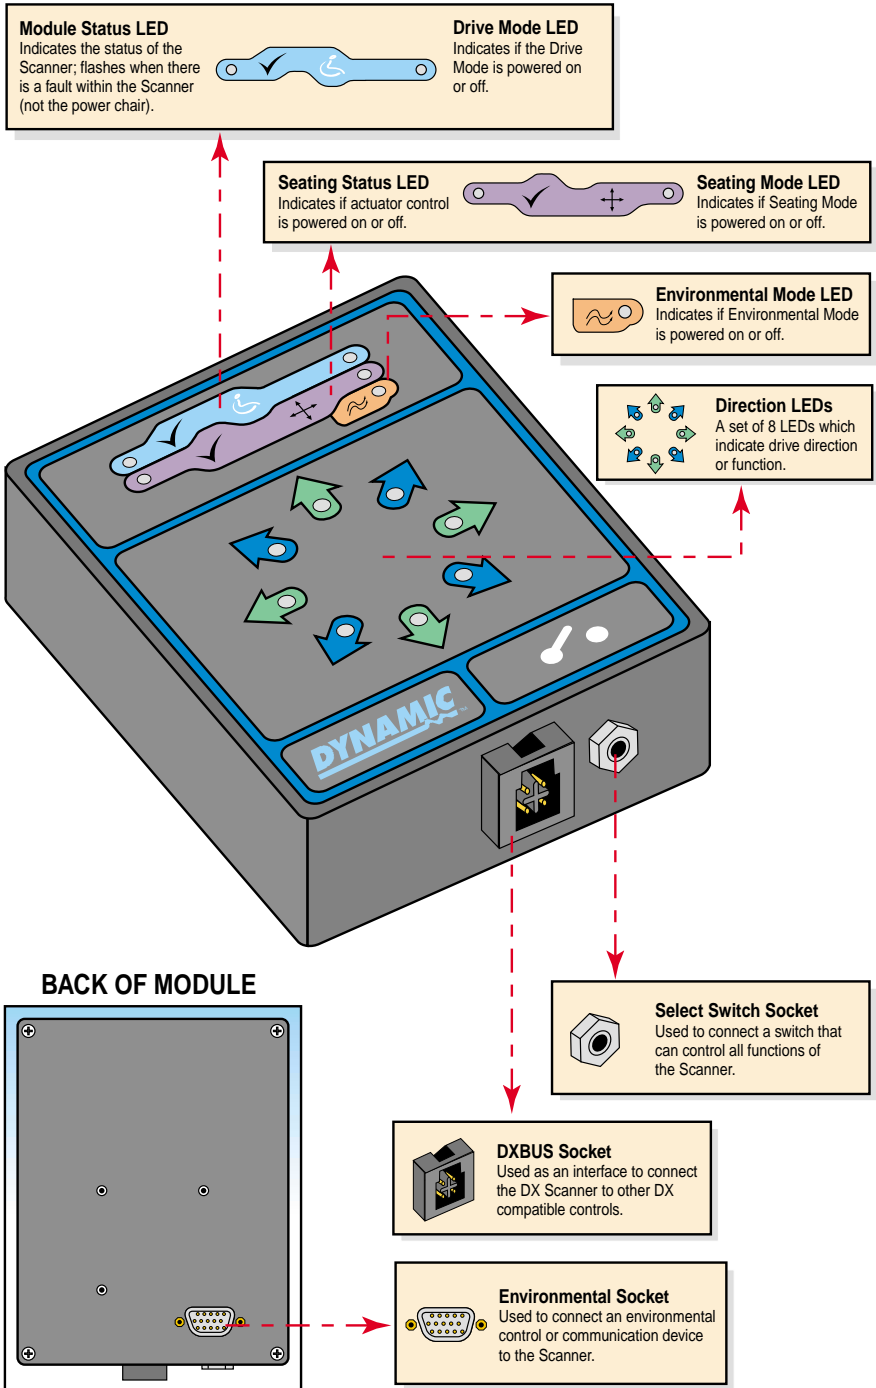

Figure 1. Scanner Control Components and Connections
Figure 1 provides information on the Scanner Control components and connections. Use this diagram to familiarize yourself with the function and location of each component before using the Dynamic DX Scanner Control.
3. To operate a fifth actuator (if available), use the Environmental Mode LED (see figure 1). Wait until the Environmental Mode LED is lit, then press and hold down the Select Switch to extend the actuator. To retract the actuator, press and hold down the Select Switch again. If you have any questions regarding the use of the fifth actuator, please contact your authorized provider.